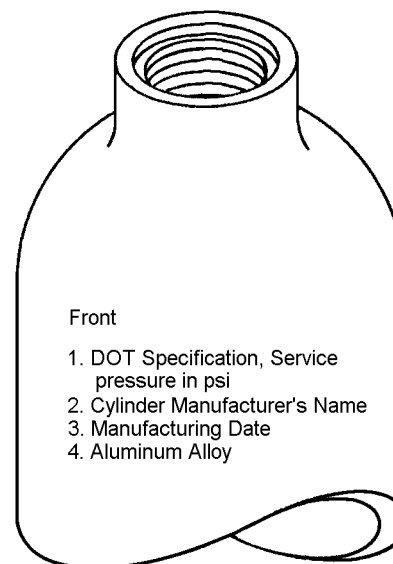

Figure 15-6. Cylinder Markings
1. Inspect the SRU-36/P for external damage, dents, cracks, corrosion, and cylinder markings (figure 15-6).
b. Verify cylinder markings (figure 15-6).